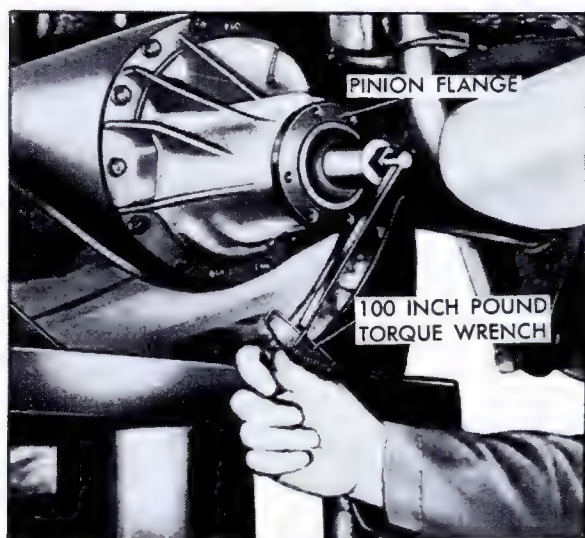

Fig. 4-40 Checking Pinion Shaft Pre-Load Torque
d. Using a 0-100 inch-pound torque wrench and a 1-1/4 inch socket with a 3/4 to 1/2 inch adapter, measure the inch-pounds torque required to rotate the pinion shaft slowly for at least two turns, Fig. 4-40. Record torque reading.
1. Install chain to support propeller shaft as shown in Fig. 4-40. Disconnect propeller shaft from differential and secure with chain.